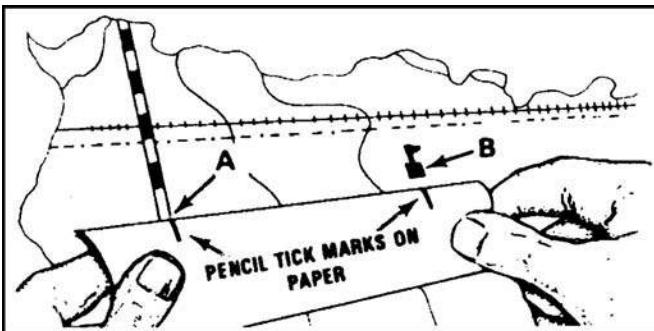

Figure 071-329-1008-2. Measuring distance
- Match the marks on the paper with the appropriate bar scale (figure 071-329-1008-3).